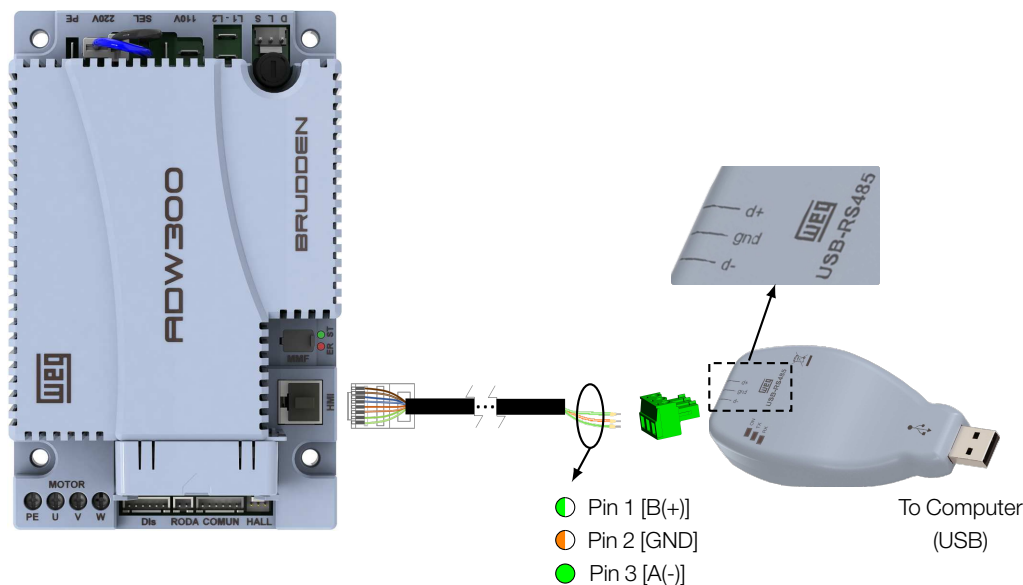

Figure 2.2: Interface available for the ADW300HB G2
The communication module available for updating the ADW300HB G2 frequency inverter is the USB-RS485 Interface Converter. However, to connect these two devices, it is necessary to use the adapter cable for USB-RS485 converter (see Section 2.2.1.1 Confection the Adapter Cable for USB-RS485 Converter on page 2-2). The interconnection between the frequency inverter, the adapter cable and the interface converter is shown in Figure 2.2 on page 2-2.
The USB-RS485 converter does not necessarily have to be the model shown in the Figure 2.2 on page 2-2. Any converter from any manufacturer can be used. However, it is recommended to use the USB-RS485-N interface converter (item 14389292).